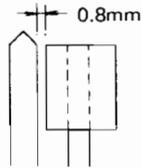

Fig. 1-4
3. Check to see that the gap between the pinch roller and capstan shaft is $0.8\text{mm} \pm 0.2\text{mm}$. (See Fig. 1-4)